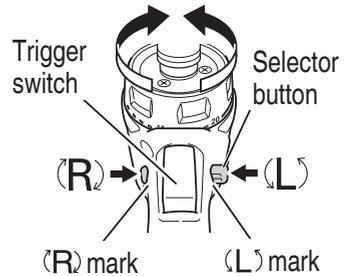

Fig. 7
The L-side of the selector button is pushed to turn the bit counterclockwise. (See Fig. 7) (The (L) and (R) marks are provided on the push button.)